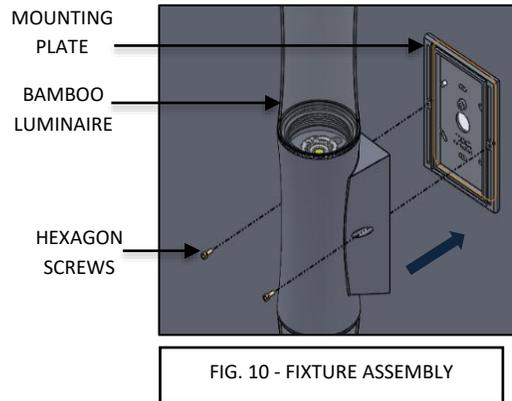

FIG. 10 - FIXTURE ASSEMBLY
3. Reattach FIXTURE BODY to mounting plate and make sure DIFFUSERS are fully tightened as shown in Fig. 10.